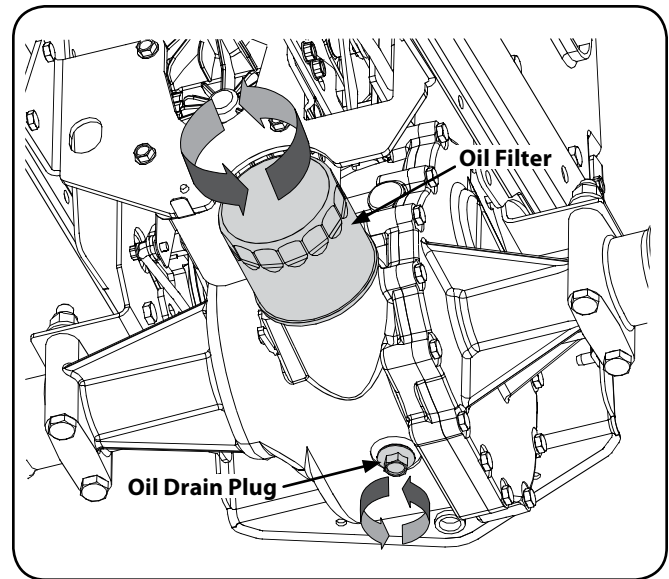

Figure 6-4
3. Remove the drain plug and allow the transmission oil to drain into a clean container having a capacity of more than six quarts. Reinstall the drain plug. See Figure 6-4.
4. Clean around the base of the transmission oil filter and remove the filter by turning it counterclockwise. Refer to Figure 6-4.